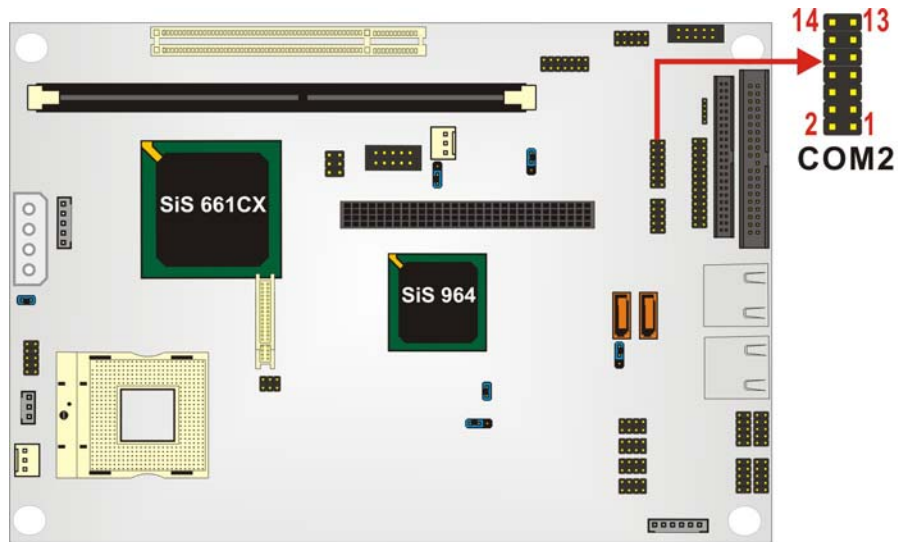

Figure 3-17: RS-232/422/485 Serial Port Connector Pinout Locations
- CN Location:** See Figure 3-17